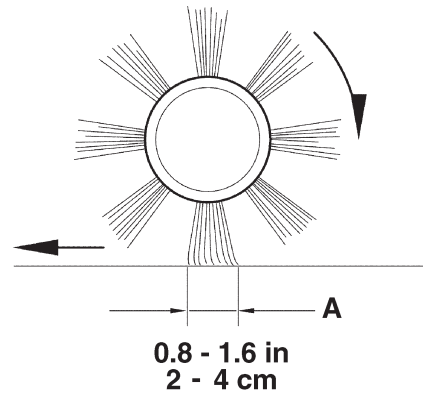

Figure 3
- Check that the main broom print (A, Fig. 3), along its length, is 2 to 4 cm wide.
If it is not possible to adjust the print (A, Fig. 3) properly, because the pressure on the floor at the ends of the broom is different, refer to the Service Manual.